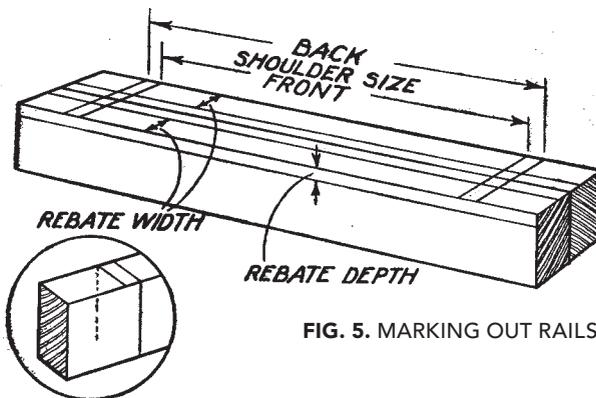

**FIG. 1.** PERSPECTIVE VIEW OF JOINT, AND ELEVATIONS SHOWING ITS PROPORTIONS
*When a door or similar framework has to be fitted with a rebated-in panel the mortise and tenon joints which join the corner need to have longer shoulders at the back than at the front. This is because the rebate plane must be taken right through in both stiles and rails, as shown in Fig. 2. Thus, the back of the stile is cut away, hence the necessity for the back shoulder of the rail being longer than the front one. In machine work the moulding spindle is generally used to cut the rebate. If the parts are machined before assembly the joint will be the same as in hand work (Fig. 1). If, however, the door is put together first the tenons have equal shoulders since the material has square edges. The spindle (which revolves as at B) scoops out the rebate, leaving rounded corners, as shown. These are finished square by hand afterwards. If, therefore, you come across a framework in which the back shoulder line does not line up with the rebate but is as shown to the right at B, Fig. 2, you can be sure that the rebate was not worked by hand.*
**FIG. 1. BAD FAULTS IN A TENON.** Note how the saw has been taken beyond the shoulder and the tenon lines, the crooked sawing of the sides, the gap at the back, and the unnecessary gauge lines.